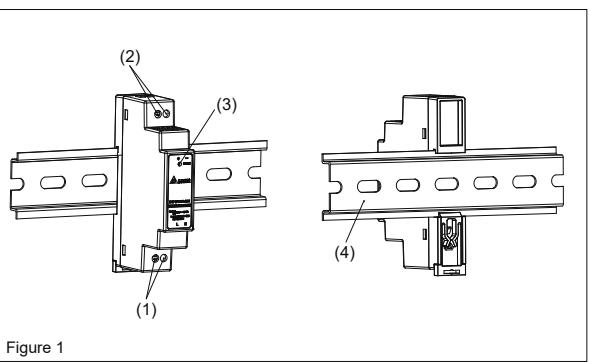
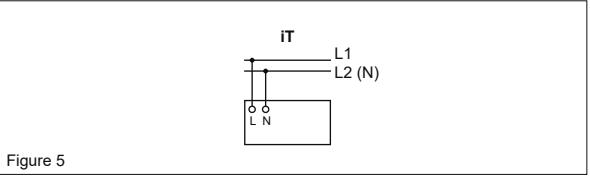

Figure 1
Figure 5
#### 2. Device description (Fig. 1)
#### 4.1. Input connection (Fig. 1, Fig. 5)
Use L and N connections of input terminal connector (see Fig. 1 (1)) to establish the 100-240Vac connection.
#### 4.2. Output connection (Fig. 1 (2))
Use the "+" and "-" screw connections to establish the 24Vdc connection. The output provides 24Vdc. The green LED DC OK displays correct function of the output (Fig. 1 (3)). The device has a short circuit and overload protection and an over voltage protection limited to < 34.8Vdc.